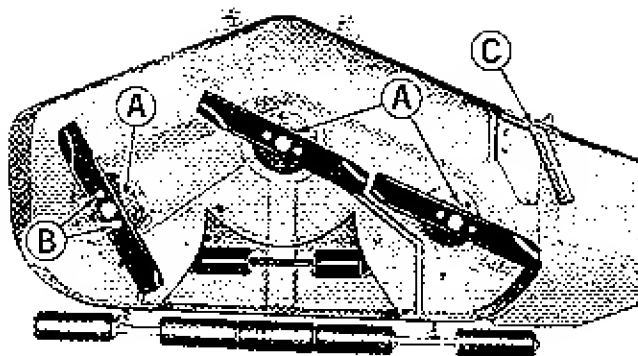

Figure 10. Underside of mower.
See figure 10. Each of the three grease fittings (A) should be given about five shots of general purpose automotive grease. Before greasing the grease fittings, wipe them clean to prevent dirt from being forced into the bearings. **DO NOT OVER LUBRICATE THE MOWER. EXCESS GREASE AND OIL MAY GET ON THE BELTS AND CAUSE SLIPPAGE.**
Do not attempt to remove the blades until you have the correct size box, socket, or open end wrenches for the blade mounting bolts. Place a wooden block between the mower blade and deck to prevent the blade from rotating until the capscrews are loosened. See figure 10. Remove the capscrews (B) to remove the blades for sharpening or replacement. **CAUTION: NEVER OPERATE THE MOWER WITHOUT THE STONE GUARD (C) IN PLACE. ALWAYS INSURE IT IS SECURELY IN PLACE WHEN SERVICING THE MOWER. DO NOT REMOVE THE ARBORS. REMOVE THE BLADES FROM THE ARBORS TO SHARPEN A**